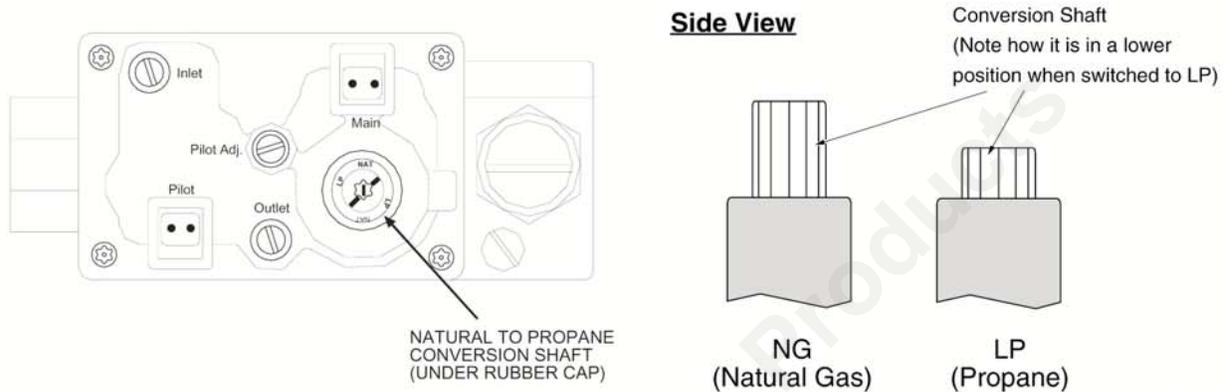

Figure 36
- The gas control valve has a propane conversion shaft that alters the outlet pressure. Remove the rubber cap over the propane conversion shaft and twist the small knob so the line points to "LP" (see Figure 36).